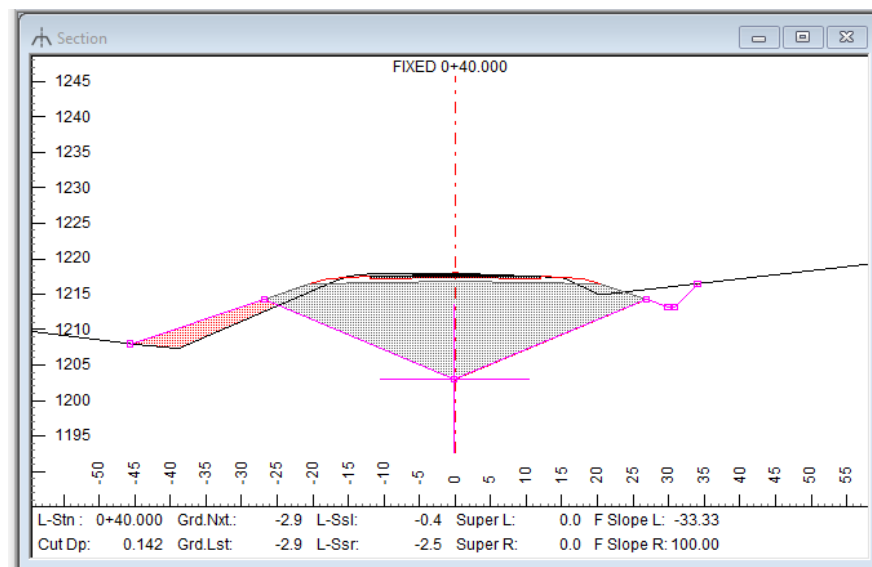

Figure 25-4 Cross Section Panel with SG Polyline Selected
13. The subgrade (SG) layer should now be highlighted in magenta in the section window.
14. <Right-click> in the section window | select the *Add/Edit Polyline Pt. Tool*. Click and drag the center point IP point. Refer to Figure 25-4.